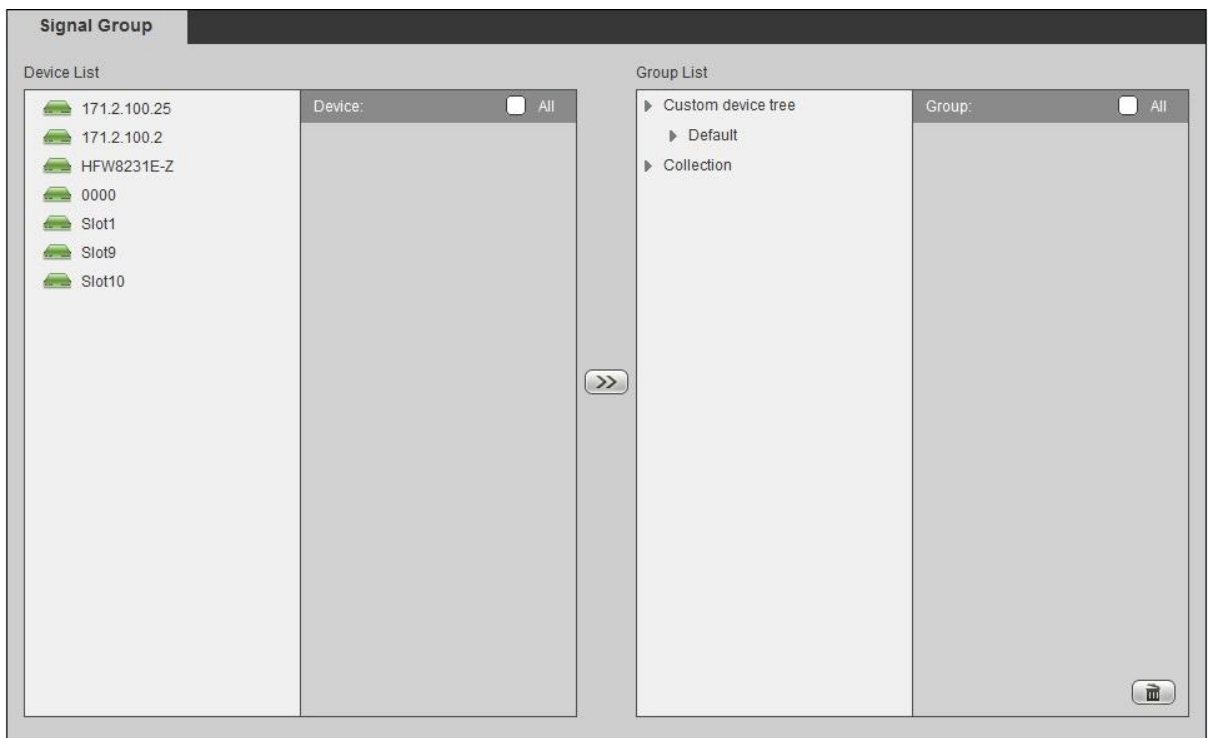

Figure 4-87
Step 1 Select “Setup>Signal >Signal Group”. The system displays “Signal Group” interface, as shown in Figure 4-87.